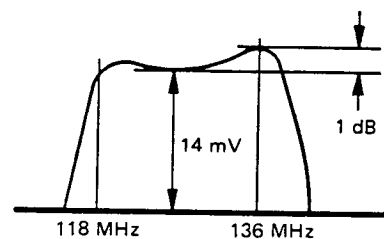

Figure 1
- (1) Connect the output of the sweep generator to TP8001, and connect the oscilloscope through the linear detector to TP8002.
- (2) Tune the receiver to 118.000 MHz, set the sweep generator center frequency to 127 MHz, and adjust T8011 - T8015 for the passband waveform shown in Figure 1.